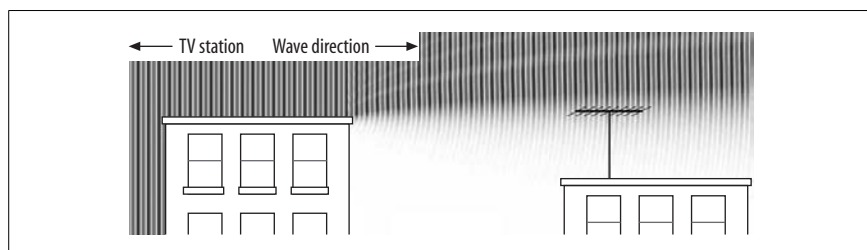

Figure 4-25. Obstructions and their effect on antennas
- As Figure 4-25 showed, even if you can see the transmitting tower, if the signal skims over the top of some obstructions, there is a stronger field just a few feet higher.
still obstructed (by trees, etc.), an unobstructed site closer to the ground will work better for UHF. The essential goal is to find a spot where your UHF antenna can see the horizon in the direction of the station (see Figure 4-25).